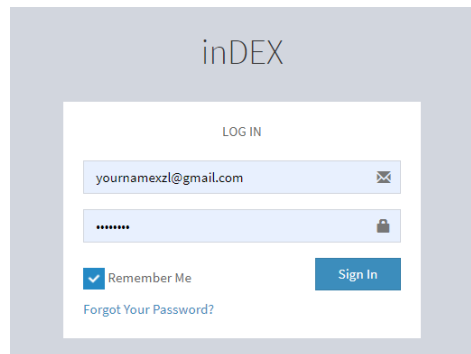

Figure 69
- Once they have successfully logged in they will have to first accept the End User License Agreement. After acceptance of the EULA (End User License Agreement) they will be taken to the default machine screen. (See figure 69). From here they will be able to execute their inDEX functions.